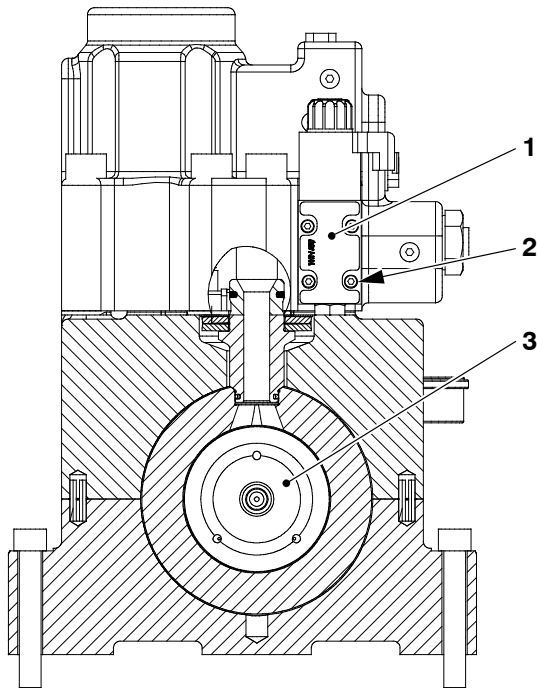

Fig. 1
- 1) Make sure that the servo oil rail (3, Fig. 1) has no pressure.
- 2) Disconnect the electrical connection from the pilot valve (1).
- 4) Tighten the pilot valve screws (2) at 9 Nm.
- 5) Connect the electrical connection from the pilot valve (1).